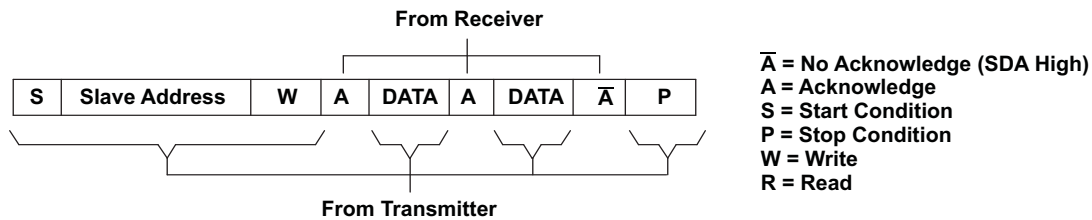
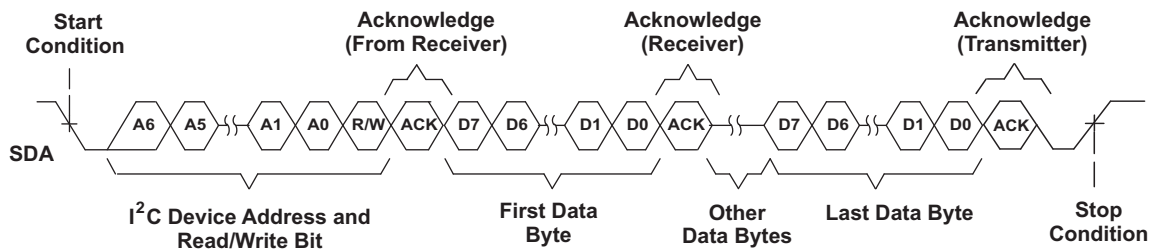
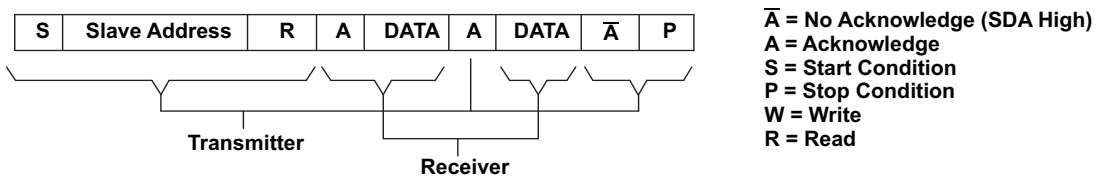
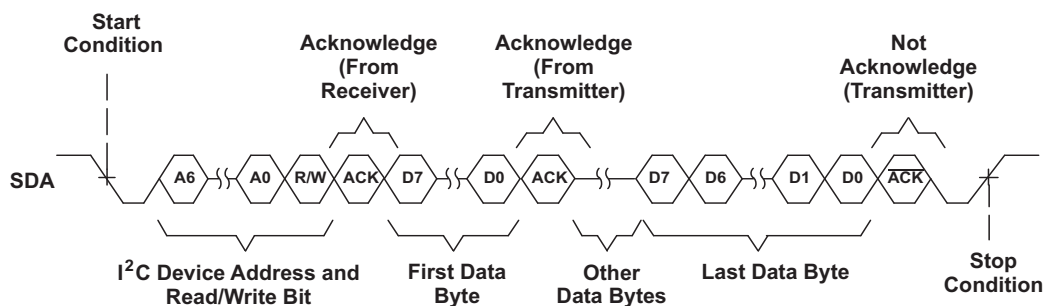

Figure 13. I²C Write Cycle
Figure 14. Multiple Byte Write Transfer
Figure 15. I²C Read Cycle
Figure 16. Multiple Byte Read Transfer
During a write cycle, the transmitting device must not drive the SDA signal line during the acknowledge cycle, so that the receiving device may drive the SDA signal low. After each byte transfer following the address byte, the receiving device pulls the SDA line low for one SCL clock cycle. A stop condition is initiated by the transmitting device after the last byte is transferred. An example of a write cycle can be found in Figure 13 and Figure 14. Note that the THS7327 does not allow multiple write transfers to occur. See the *Example—Writing to the THS7327* section for more information.
During a read cycle, the slave receiver acknowledges the initial address byte if it decodes the address as its address. Following this initial acknowledge by the slave, the master device becomes a receiver and acknowledges data bytes sent by the slave. When the master has received all of the requested data bytes from the slave, the not acknowledge (A) condition is initiated by the master by keeping the SDA signal high just before it asserts the stop (P) condition. This sequence terminates a read cycle as shown in Figure 15 and Figure 16. Note that the THS7327 does not allow multiple read transfers to occur. See the *Example—Reading from the THS7327* section for more information.
The THS7327 operates using only a single byte transfer protocol similar to Figure 13 and Figure 15. The internal subaddress registers and the functionality of each are found in Table 2. When writing to the device, it is required to send one byte of data to the corresponding internal subaddress. If control of all three channels is desired, then the master has to cycle through all the subaddresses (channels) one at a time, see the *Example—Writing to the THS7327* section for the proper procedure of writing to the THS7327.